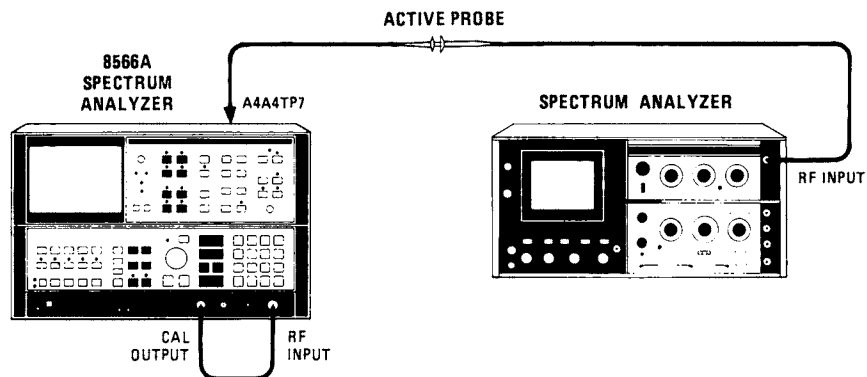

Figure 5-36. Down/Up Converter Adjustments Setup
1. Position instrument upright as shown in Figure 5-36 and remove top cover.